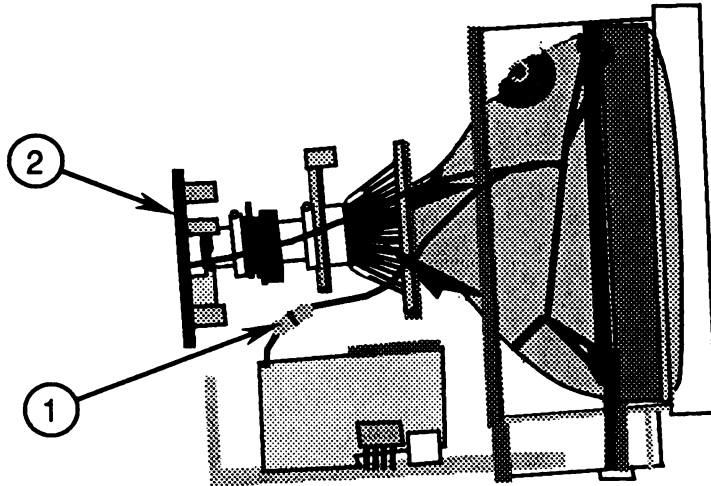

FIGURE 33
15. Reconnect the white CRT ground wire at its plug-in connector (Figure 33, #1).
17. Reconnect the CRT board to the CRT neck (Figure 33, #2). It fits only one way.